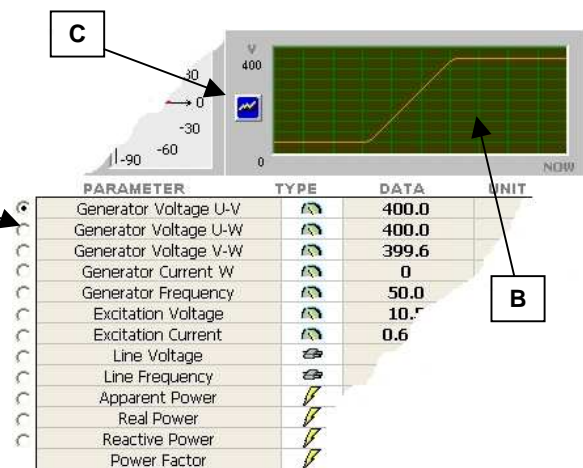

Fig. 5.8.6.a
In Fig. 5.8.6.a an image of the oscillographic indicator relative to the electrical system parameters is shown.
- ⊙ Selection of the electrical parameter to be displayed (A indicator in Fig. 5.8.6.a). Next to each one of the items corresponding to the measured parameters, an option button (“⊙”) for the selection of the parameter to be displayed is located.
- Visualisation of the selected parameter in function of the time (B indicator in Fig. 5.8.6.a).
In the example in the Fig. 5.8.6.a, the time profile of the voltage between the U and V phases, measured during the SOFT-START phase, is shown.